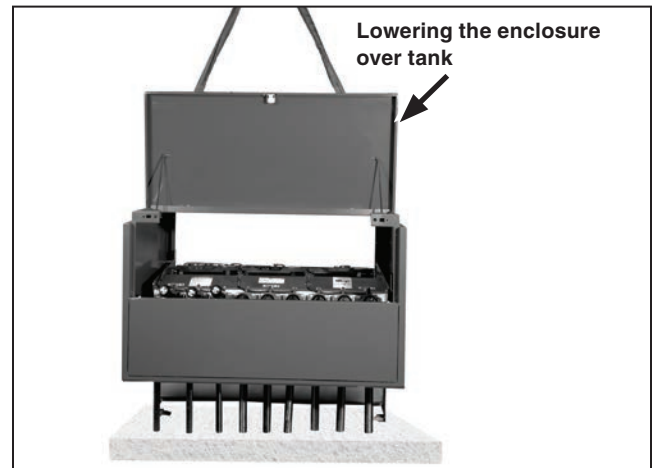

Figure 17. Lower the enclosure and position it over the anchor bolt holes.
STEP 10. Lift the enclosure into place over the tank, observing the precautions given in the “Handling” section on page 8. See Figure 17.